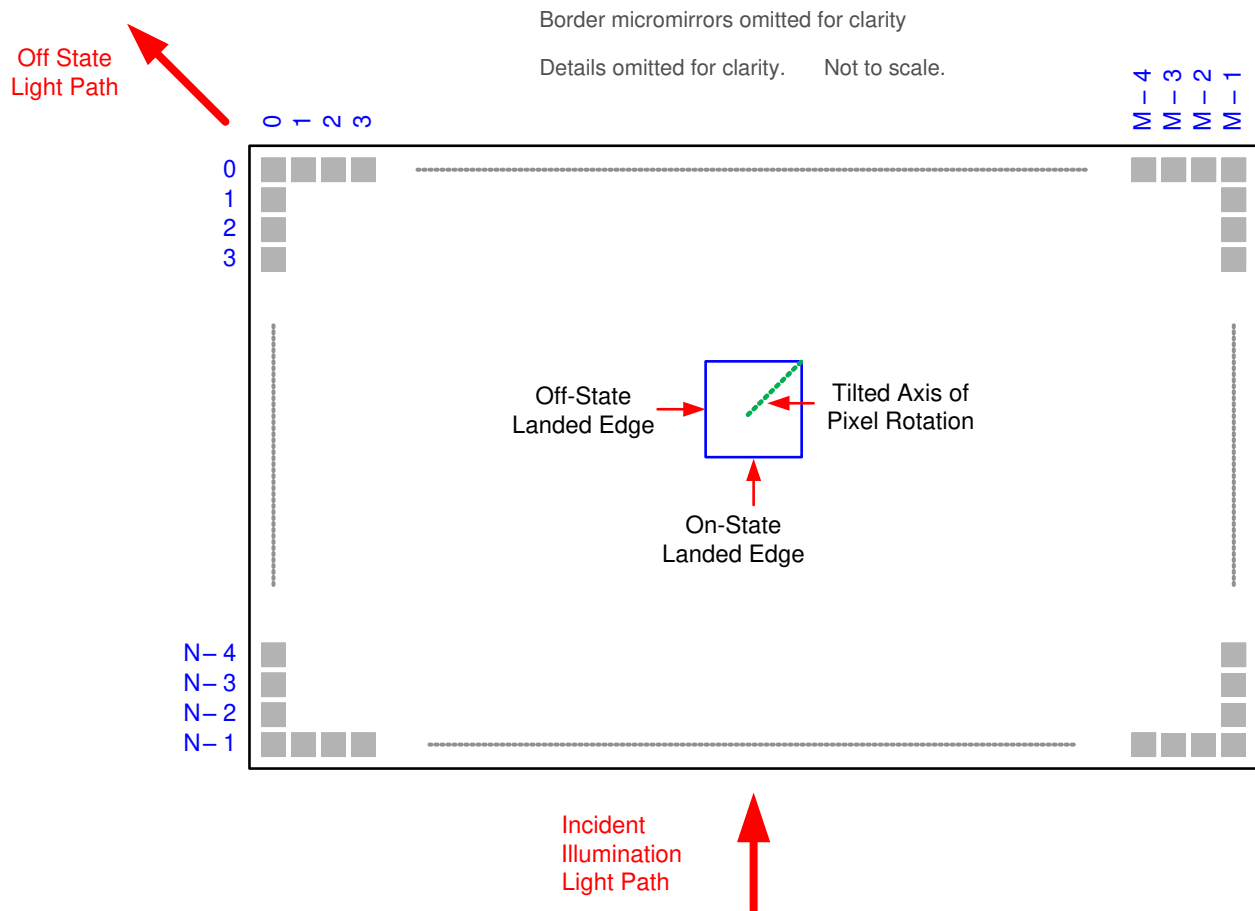

Figure 6-9. Micromirror Landed Orientation and Tilt
- (1) Limits on variability of micromirror tilt angle are critical in the design of the accompanying optical system. Variations in tilt angle within a device may result in apparent non-uniformities, such as line pairing and image mottling, across the projected image. Variations in the average tilt angle between devices may result in colorimetric and system contrast variations.
- (2) See Figure 6-9.
- (3) An out-of-specification micromirror is defined as a micromirror that is unable to transition between the two landed states within the specified Micromirror Switching Time.